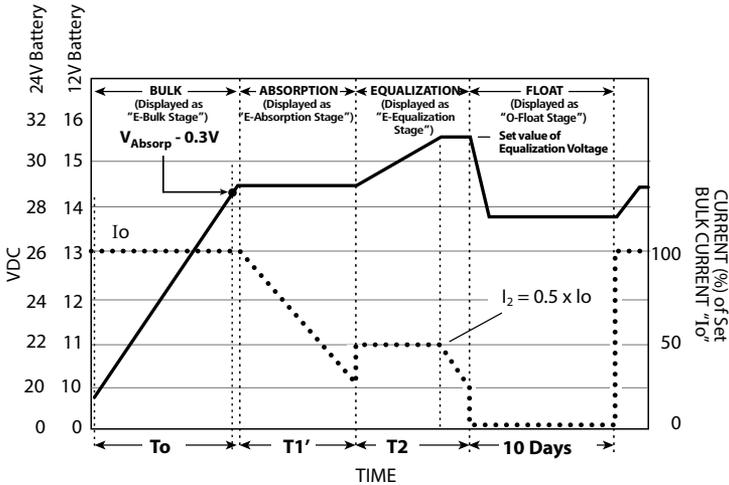

Fig 5.2 Charging Curve for 4 Stage Adaptive Charging Profile in Equalization Mode
Fig 5.2 shows the voltage and current curves during the 4 stages of charging in this profile. When Equalization is activated (requires optional Remote Control Model EVO-RC-PLUS – see Section 5.9), the charger will first execute Bulk Stage followed by Absorption Stage. On completion of Absorption Stage, the charger will execute Equalization Stage. After completion of Equalization Stage, the charger will enter Float Stage. The stage transitions will thus be: Bulk Stage (Constant Current) → Absorption Stage (Constant Voltage) → Equalization Stage (Constant Voltage) → Float Stage (Constant Voltage).
5.9 DETAILS OF ADAPTIVE EQUALIZATION PROFILE CHARGING CYCLE (Fig 5.2)